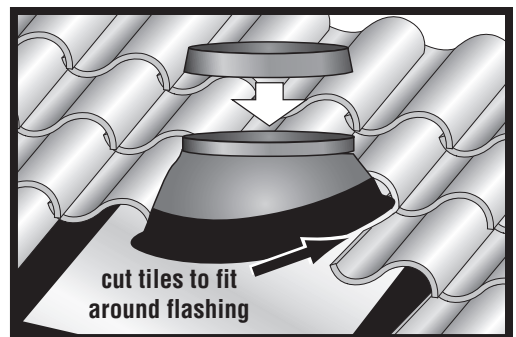
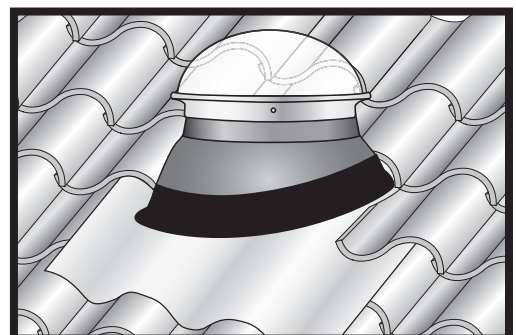

Figure 4
Figure 5
**6.** At the high side of the roof towards the ridge, replace the tiles over the skirt. Cut tiles to fit around flashing (see Figure 4). Some furring strips may need to be replaced on top of flashing footprint to support tiles. Replace the tiles on the low side of the roof, but keep skirt above the tiles and reshape the skirt aluminum to form around the tiles (see Figure 5).